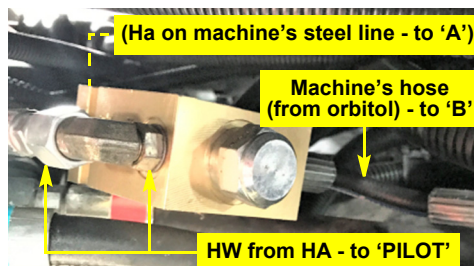

Figure 4e: DLSV connections
e. Connect **HW** from **HA**'s LS port (Figure 4e) to **HS** in **HQ**'s 'PILOT' port ('Pt' in Figure 4a).